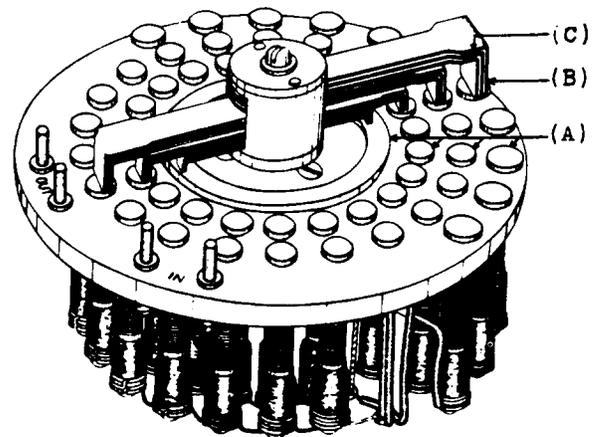

Fig. 1 - Stud Type Rotary Switch
(a) Fig. 1 (A) - The contact surfaces shall be cleaned and lubricated, when necessary, in accordance with the section covering the cleaning and lubricating of stud type rotary switches.
(b) Fig. 1 (B) - The contact springs shall be approximately centrally located on each contact stud when the detent roller rests in the corresponding depression in the detent plate and the pointer shall line up with the corresponding mark on the escutcheon plate. On apparatus equipped with dial plates the same requirement applies except that
(a) Fig. 1 (C) - The pressure of each of the 3 contact spring leaves on the outer row of contact studs shall be